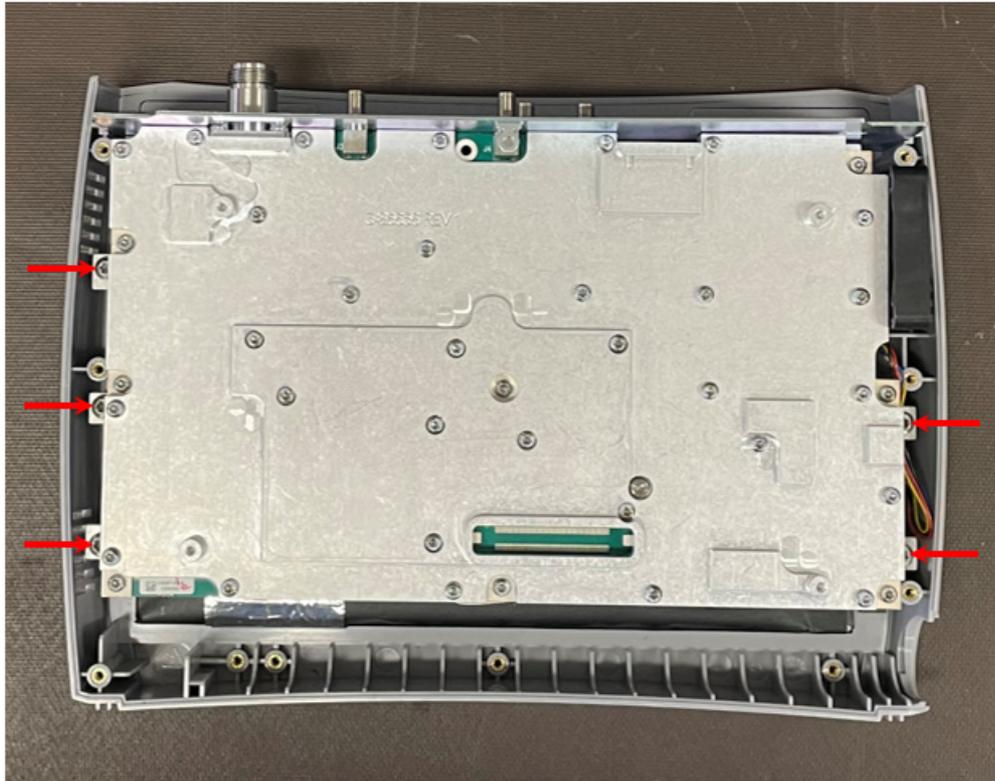

Figure 4-6. Main PCB/SPA PCB Removal
3. Remove the five Torx screws securing the Main PCB and SPA PCB assemblies using a T20 Torx driver. See Figure 4-6.